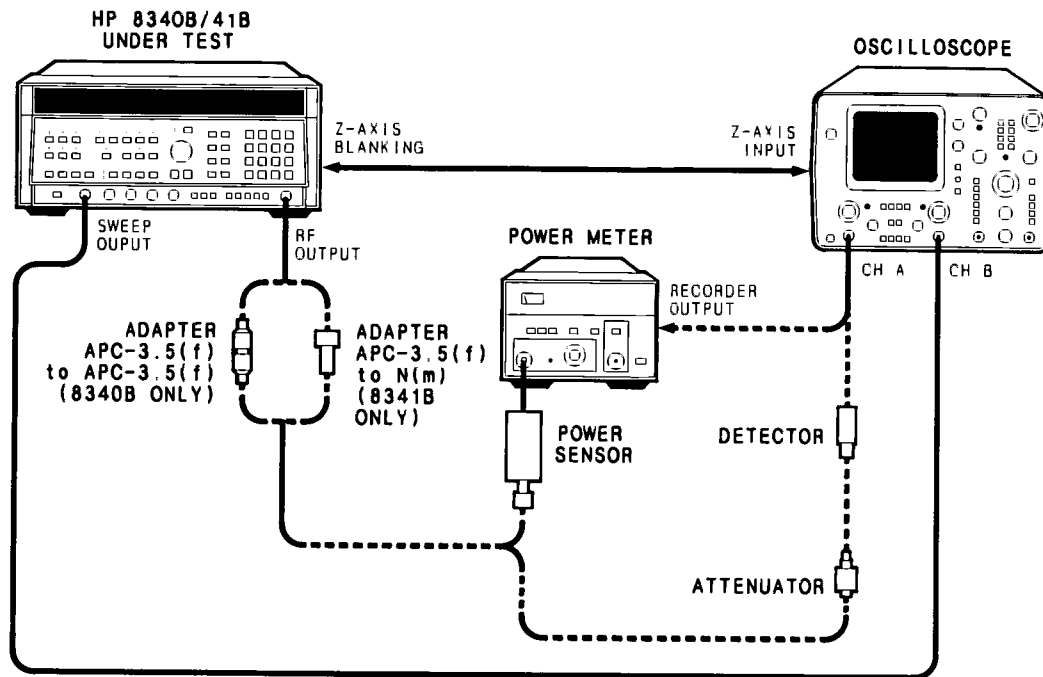

Figure 4-5. Maximum Leveled Output Power and Power Accuracy Test Setup
- 1 Connect the equipment as shown in Figure 4-5. Connect the 10 dB pad and crystal detector to the DUT RF output and connect the detector output to the oscilloscope channel A input. Allow the equipment to warm up for one hour.